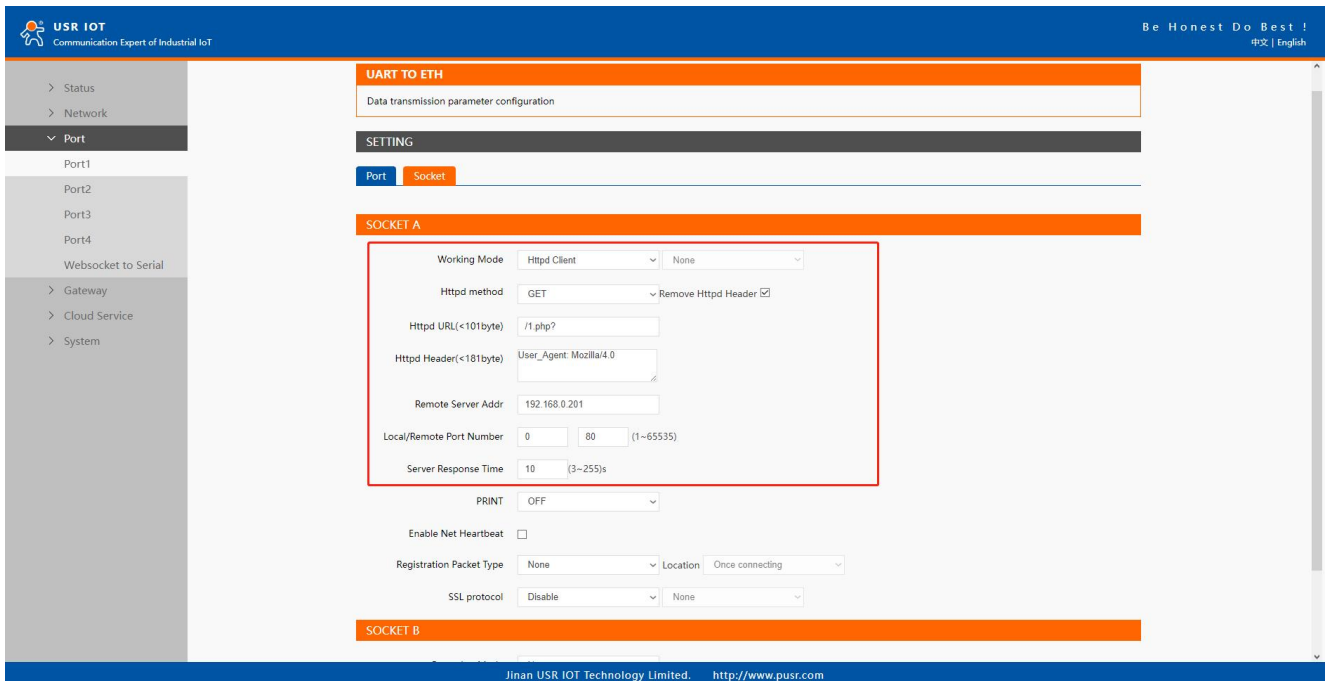

Fig. 60 HTTP client mode
Fig.60 shows an example of configuration setting for HTTP Client working mode under the Port1 socket page. You can configure other serial ports in the same way.
1. Click on the "Port1" tab on the menu frame on the left side of Web UI to go to Port1 page as shown in Fig.60.